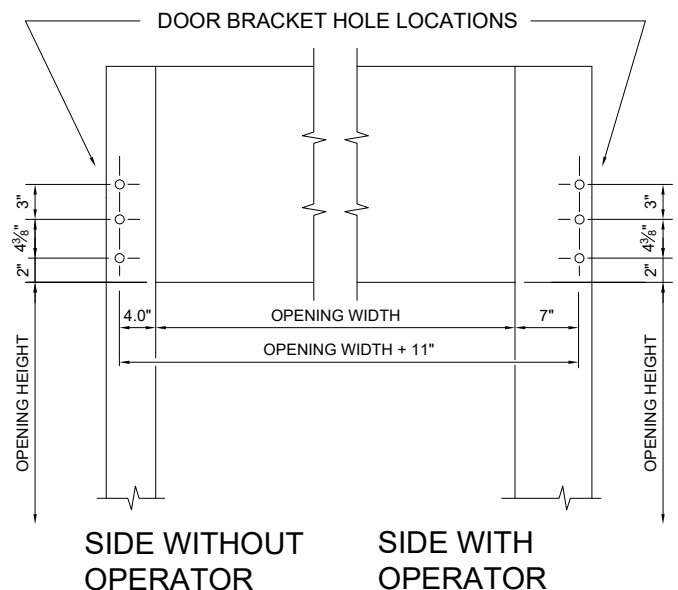

Figure 3.
3.4 Pre-drill jambs to accept door brackets; 7/16" diameter holes for 3/8" nuts and bolts in steel jambs, proper size pilot hole for 3/8" lag bolt in wood jambs. Hole locations are shown in Figure 3. Do not pre-drill jambs for door guide installation.
4.1 Mount the Right and Left bracket according to the spacing in Figure 3. Make sure there is enough spacing for the reduced-drive chain hoist on the chosen side of the door assembly. Fasten using the pre-drilled holes and fasteners described in Section 3.